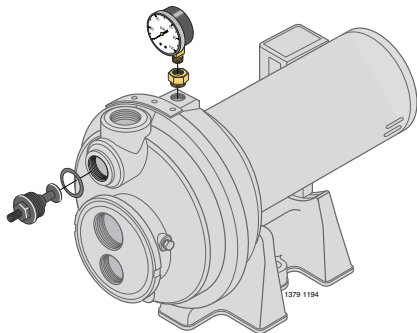

Figure 7: Install Control Valve and Pressure Gauge
1. Install the control valve and pressure gauge in the pump body (see Figure 7).
1. Install the control valve and pressure gauge in the pump body. See Figure 7.